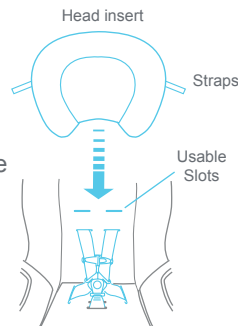

Fig. 62-1
- 1- **Head Insert: ONLY** use this insert with children who weigh between 4-18 lbs. Use is not mandatory. Hook and loop the straps through the harness slot above the shoulder straps (Fig. 62-1).